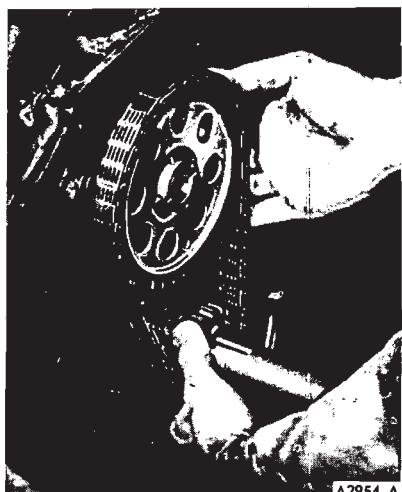

FIG. 23—Removing or Installing Timing Chain
15. Remove camshaft sprocket cap screw, washer, and fuel pump eccentric. Slide timing chain and sprockets forward, and remove as an assembly (Fig. 23).